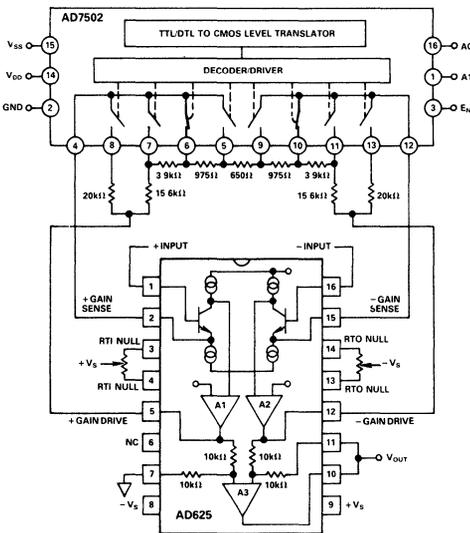
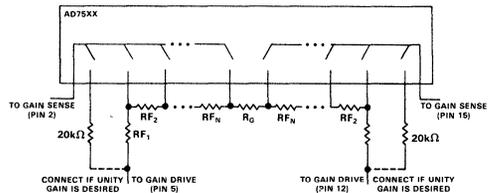

Figure 38. SPGA in a Gain of 16
Figure 41. Resistors for a Gain Setting Network
Figure 38 shows an AD625 based SPGA with possible gains of 1, 4, 16, 64. R_G equals the resistance between the gain sense lines (pins 2 and 15) of the AD625. In Figure 38, R_G equals the sum of the two 975 Ω resistors and the 650 Ω resistor, or 2600 Ω . R_F equals the resistance between the gain sense and the gain drive pins (pins 12 and 15, or pins 2 and 5), that is R_F equals the 15.6k Ω resistor plus the 3.9k Ω resistor, or 19.5k Ω . The gain, therefore equals:
The individual resistors in the gain network can be calculated sequentially using the formula given below. The equation determines the resistors as labeled in Figure 41. The feedback resistors and the gain setting resistors are interactive, therefore; the formula must be a series where the present term is dependent on the preceding term(s). The formula
running total of the preceding feedback resistors. To illustrate how the formula can be applied, an example similar to the calculation used for the resistor network in Figure 38 is examined below.
- 1) Unity gain is treated as a separate case. It is implemented with separate 20kΩ feedback resistors as shown in Figure 41. It is then ignored in further calculations.
- 2) Before making any calculations it is advised to draw a resistor network similar to the network in Figure 41. The network will have $(2 \times M) + 1$ resistors, where M = number of gains. For Figure 38 $M = 3$ (4, 16, 64), therefore, the resistor string will have 7 resistors (plus the two 20kΩ "side" resistors for unity gain).
- 5) If different resistor values are desired, all the resistors in the network can be scaled by some convenient factor. However, raising the impedance will increase the RTO errors, lowering the total network resistance below 20kΩ can result in amplifier instability. More information on this phenomenon is given in the RPGA section of the data sheet. The scale factor will not affect the unity gain feedback resistors. The resistor network in Figure 38 has a scaling factor of $650/625 = 1.04$, if this factor is used on R_{F_1} , R_{F_2} , R_{F_3} , and R_G , then the resistor values will match exactly.